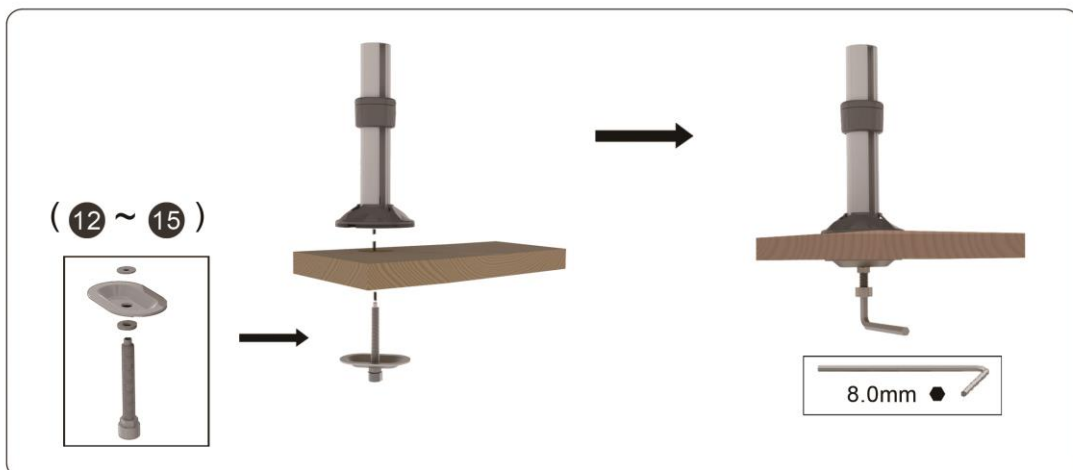

Figure 1-8
2. Place the grommet over the cable management hole. Thread the pressure plate screw into the bottom of the grommet plate and proceed to tighten with the provided 8mm Allen wrench. Tighten until the mounting pole is firmly in place (See Figure 1-8).